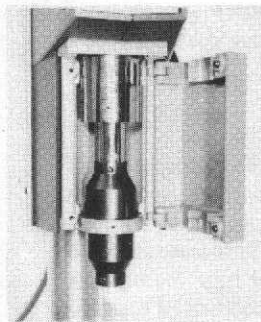

figure 5
6. While holding the converter to prevent it from dropping, loosen the two screws and open the carriage door. Reverse the assembly so that the converter is on top. [Figure 5].